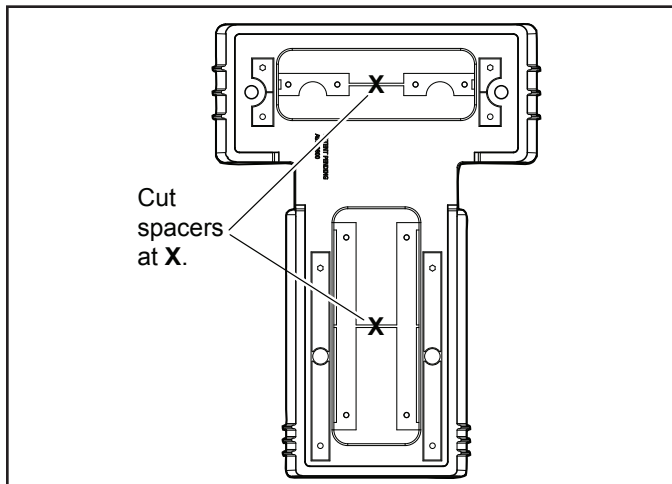

Figure 4. Cut Sets of Spacers Out of Base
1. Using a hand cutter tool, cut the plastic bars connecting the top and bottom sets of spacers, as shown in Figure 4.
2. Push the two (2) top spacers and two (2) bottom spacers out of the base.